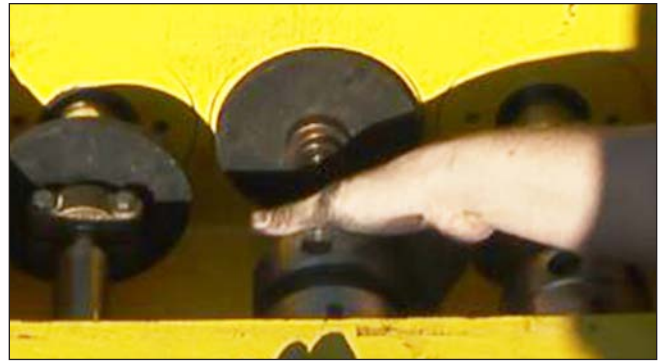

Figure 96: Gland Installation.
5. Pull the plunger (Figure 96) back to meet the crosshead pony rod. If the packing is too tight to move the plunger by hand, the pump can be rotated by hand (via the belts) to move the pony rod to meet the plunger.